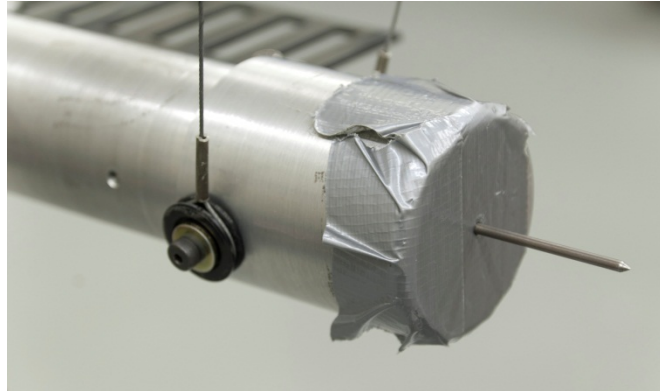
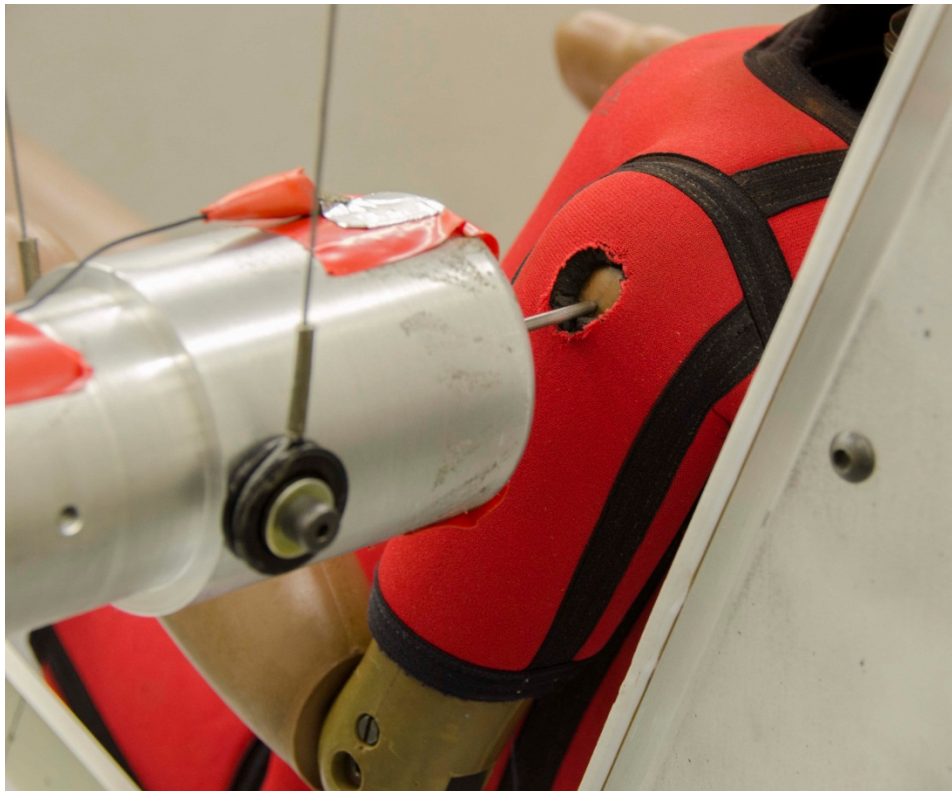

Figure 75. Pointer inserted into center of probe
Figure 76. Align probe with shoulder impact point
- To aid in determining probe positioning, place a pointer device in the centerline of the probe (Figure 75).
- Align the center of the probe with the shoulder impact point. The lateral laser will aid in this process. In addition, pulling back the probe and using a small pointer inserted into the center of the probe face may facilitate this task (Figure 75 and Figure 76). Move the seat or adjust the table up or down as needed to achieve the desired results taking care to maintain the square seat position. Remove the pointer after the shoulder impact point is set.
- Recheck that the centerline of the probe is centered on the impact point of the shoulder (Figure 76). Be sure to remove the pointer after this step.